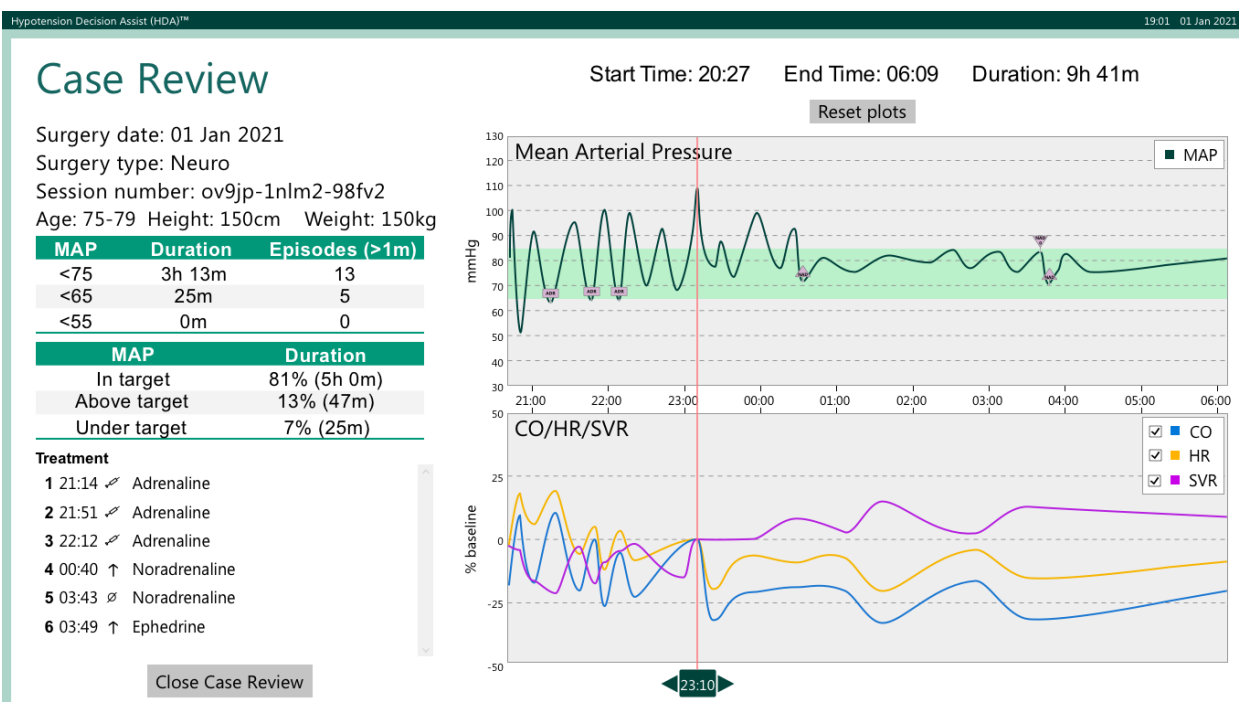

Figure 35: Hypotension Case Review (HCR)
Upon stopping a patient monitoring session, you will be presented with the Case Review (CR). See Figure 35.
At the bottom of the trend data there is a green cursor attached to a red line. The position of this line determines the time at which the CO, HR, and SVR signals are baselined. These signals are shown as percentage changes and the baseline is the value from which the percentage change in the signal is calculated. The baseline time is displayed in the green cursor (in Figure 35 this time is 23:10). You can drag this cursor to set the baseline to any time in the case, for example, the time a treatment was administered.